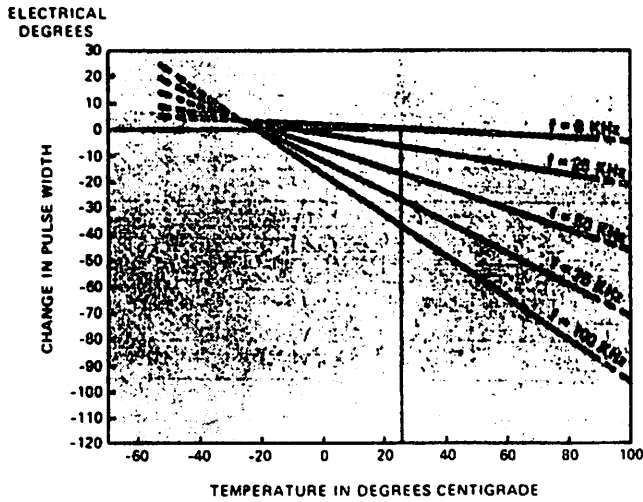

Figure 3. Typical Change in Index Pulse Width Due to Speed and Temperature
- In a properly assembled lot, 99% of the units when run at 25 °C and 8 KHz should exhibit an index pulse width greater than 260 electrical degrees and less than 460 electrical degrees. To calculate index pulse widths at other speeds and temperatures add the values specified in Figures 3 or 4 to the typical 360° pulse width or to the maximum 99% values specified in this note.